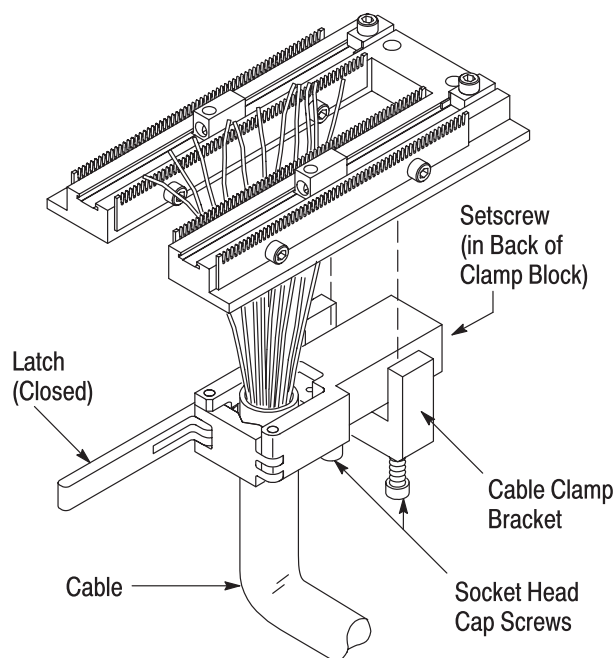

Figure 7
5. Open the cable clamp by opening the latch. Refer to Figure 7.
**NOTE** If the clamp is too tight or too loose, adjust the clamp by moving the jaw using the setscrew located in the back of the clamp block. Refer to Figure 7.
8. Position the cable clamp so that the cable bundle is centrally located on the termination cover. To position the clamp, loosen, but do not remove, the socket head cap screws in the cable clamp bracket and slide the clamp to the desired position. Refer to Figure 7.